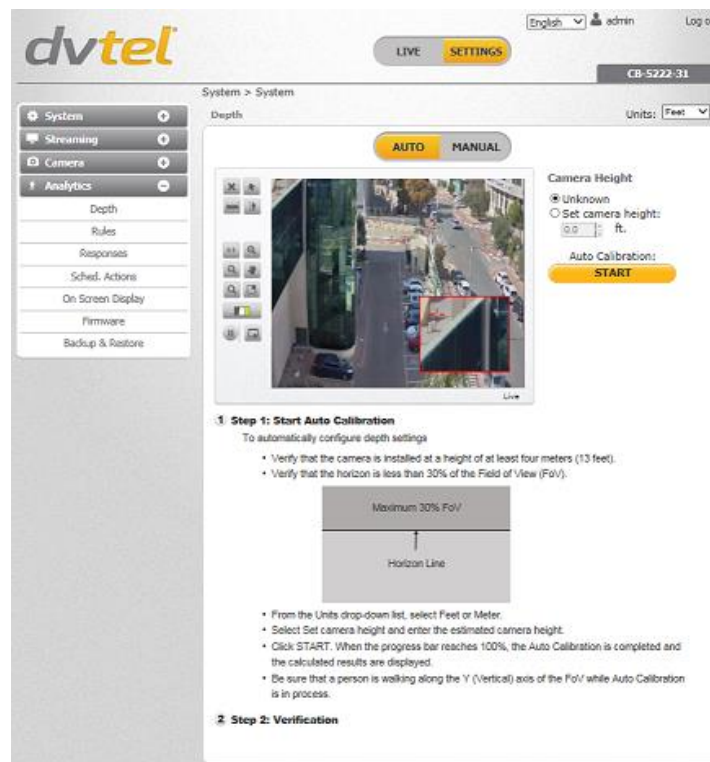

Figure 86: Auto Depth Screen - Auto Calibration
3. From the **Settings** tab, select **Analytics > Depth**. The **Auto** depth screen opens. See Figure 86: Auto Depth Screen - Auto Calibration.